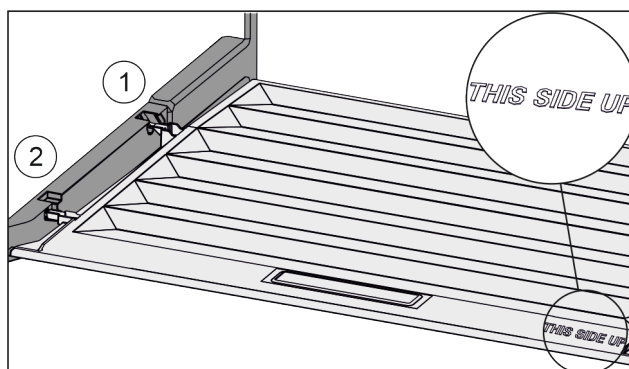

Fig. 42
- ▶ Insert the lip of the cover over the opening of the rear bracket *Fig. 42 (1)* and click into place *Fig. 42 (2).*